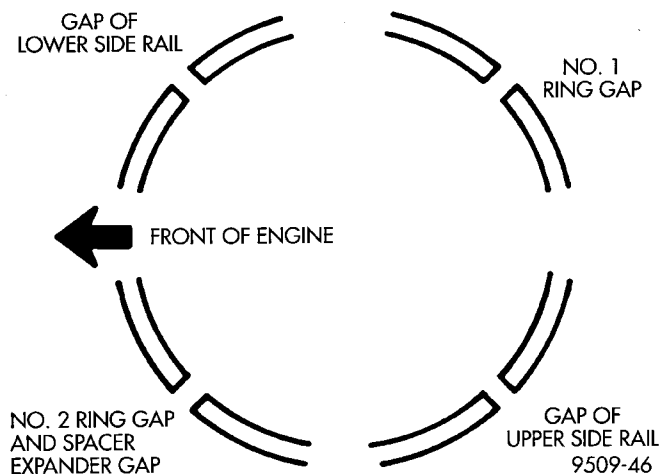

Fig. 83 Piston Ring End Gap Position
(4) Position piston ring end gaps as shown in (Fig. 83).
(5) Position oil ring expander gap at least 45° from the side rail gaps but **not** on the piston pin center or on the thrust direction. Staggering ring gap is important for oil control.
(1) Before installing pistons and connecting rod assemblies into the bore, be sure that compression ring gaps are staggered so that neither is in line with oil ring rail gap.
(2) Before installing the ring compressor, make sure the oil ring expander ends are butted and the rail gaps located as shown in (Fig. 83).